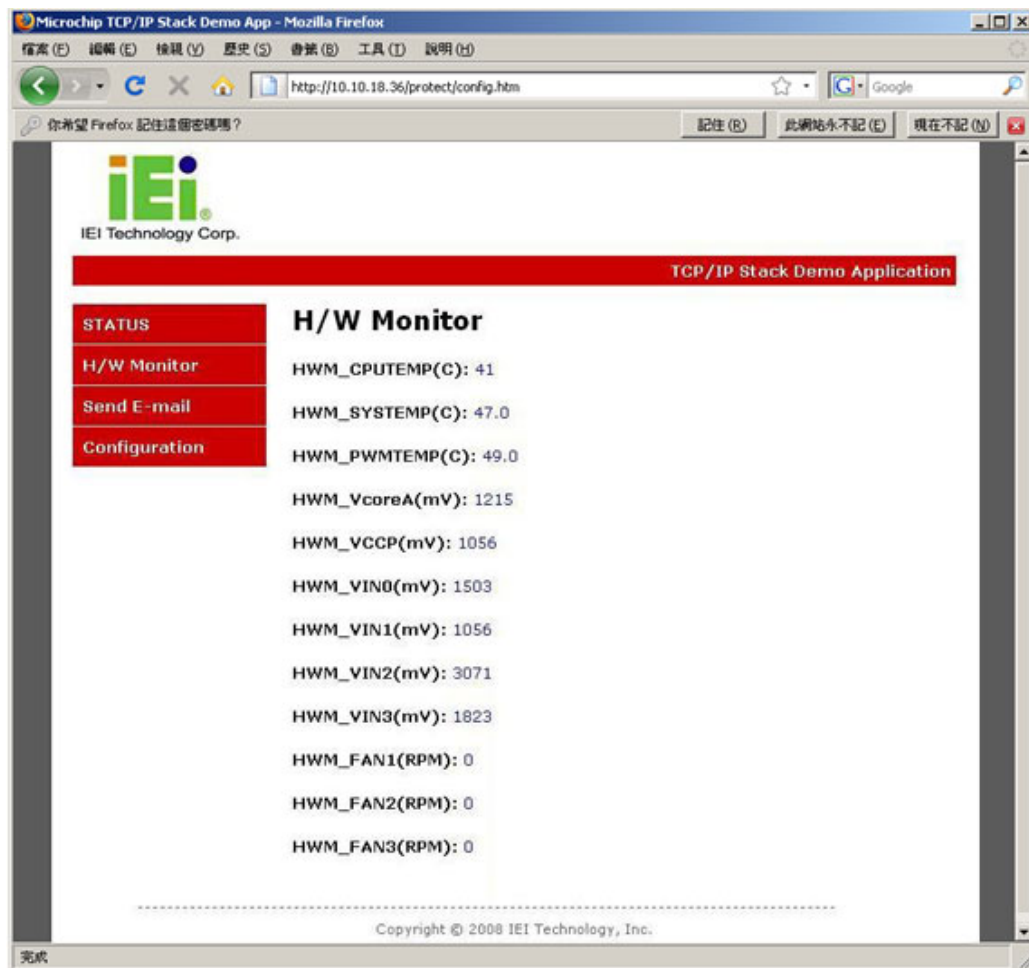

Figure 7-20: Remote Management Web Interface – H/W Monitor
Step 6: To monitor the hardware health online, click **H/W Monitor** button on the left. The hardware health information shows on the right (Figure 7-20).